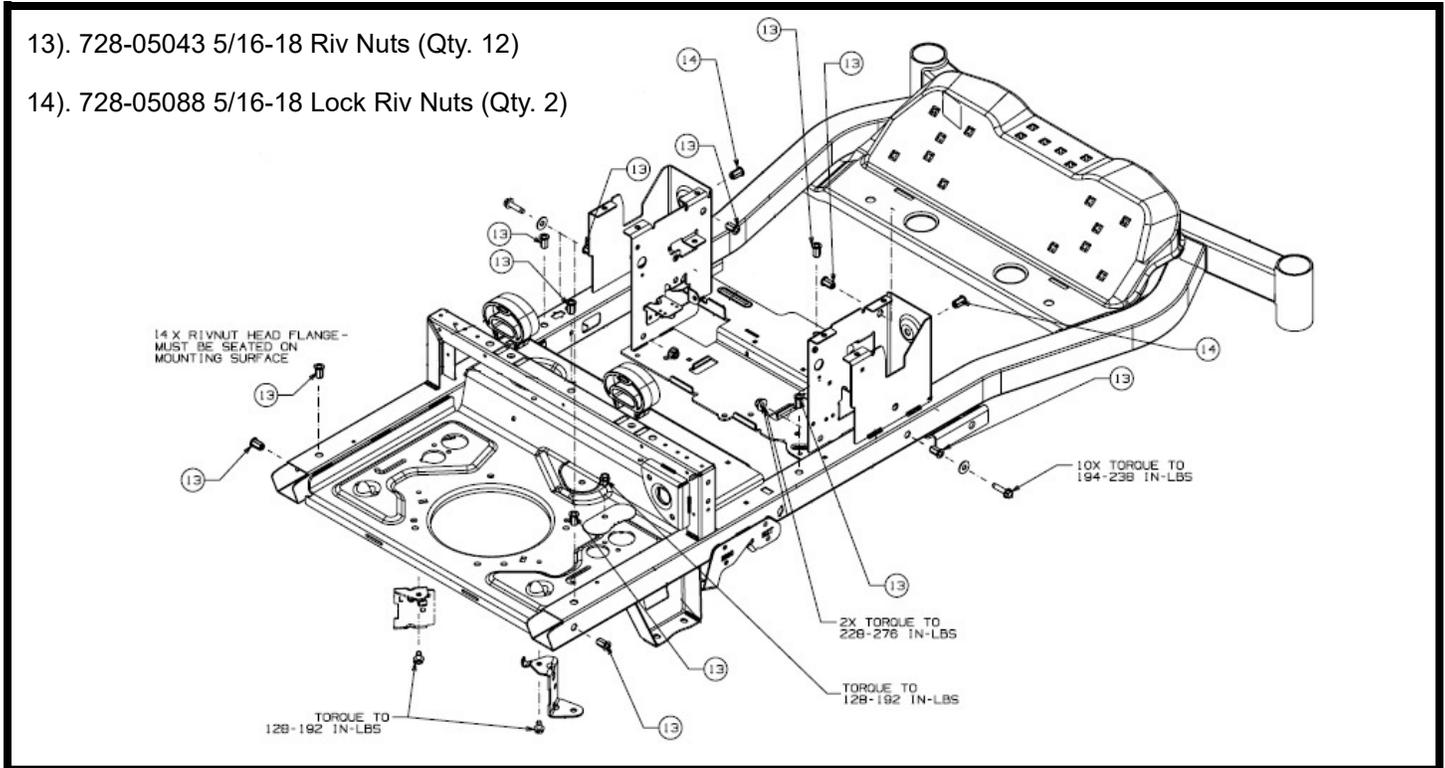

FIGURE 5
10. Riv-nuts can not be reused from the damaged frame. Install the riv nuts contained in this Service Kit using a Riv Nut tool. **NOTE: The Two (2) 728-05088 5/16-18 Lock Riv Nuts are to be installed in the location shown in Figure 5.**